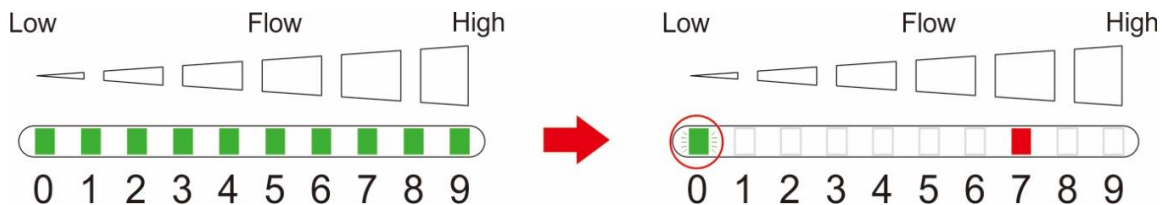

Figure 10
- (1) Attach SPX to the pipe.
- (2) Turn on the SPX power. All the LEDs light up and then go out one after another to the point that indicates the current environmental velocity. The startup process is completed then and wait at least 15 seconds for warm-up (Figure 10).